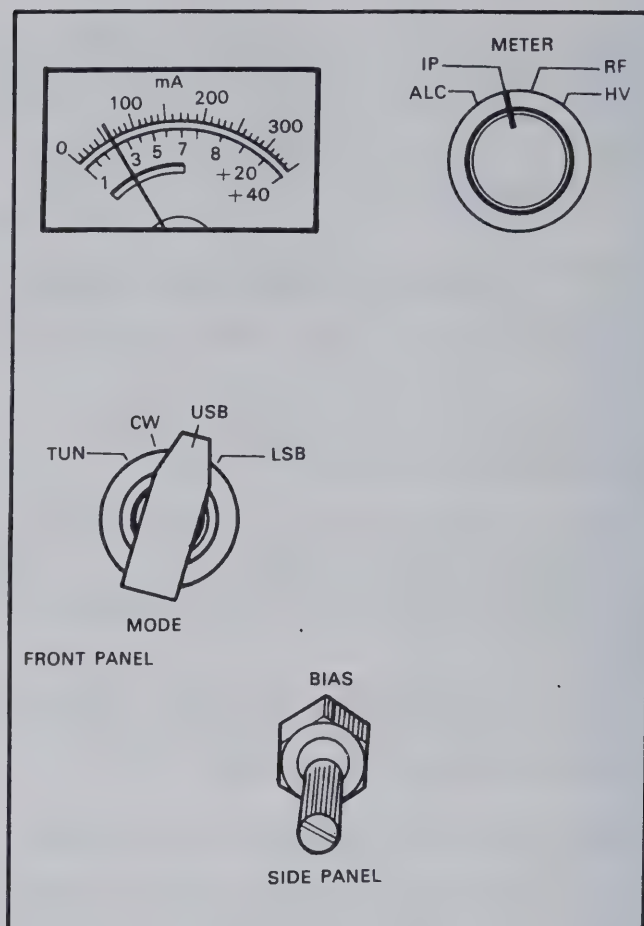

Fig. 10 Adjustment of the Plate Idling Current
■ PLATE IDLING CURRENT (See Figure 10)